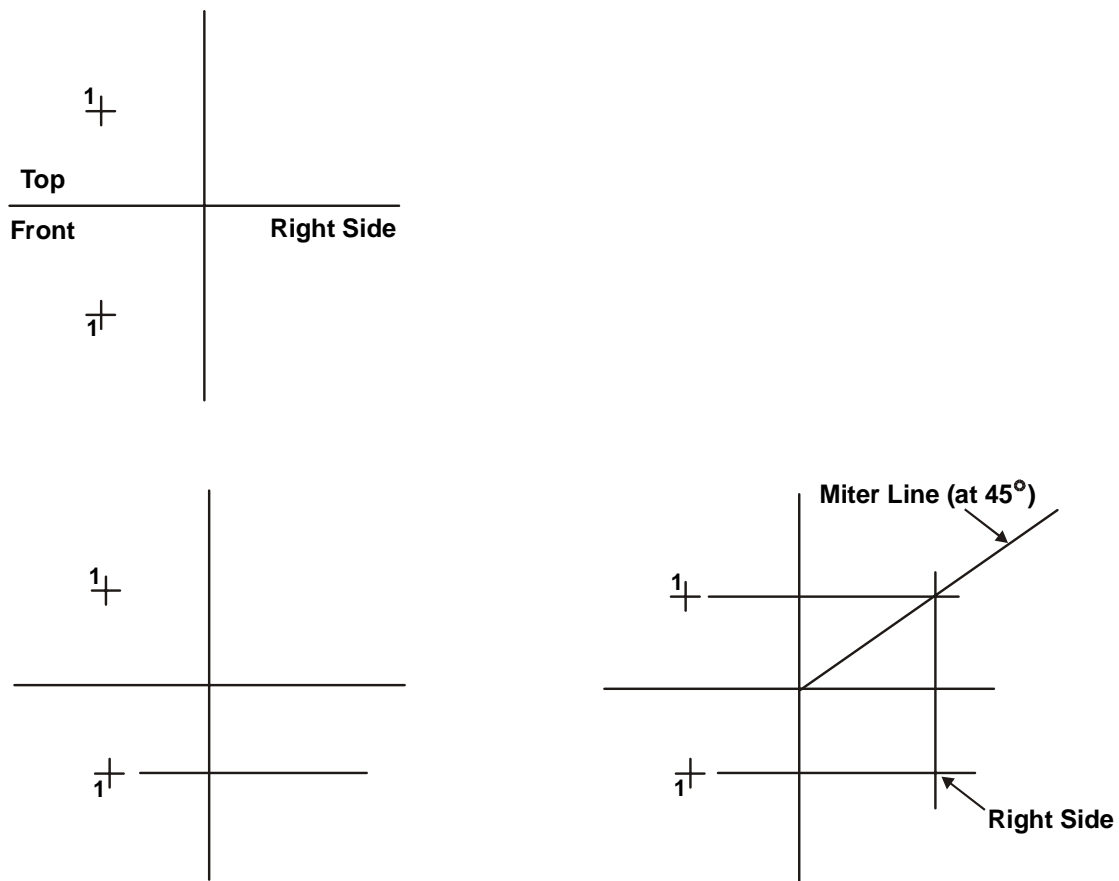

Figure 3-20. Projection of point 1 into the right side view.
- (3) Project the top view of point 1 into the right side view zone. This is done by drawing a horizontal construction line to the right, parallel to the horizontal principal plane line until it touches the 45-degree miter line. When the projection line touches the miter line, it goes from horizontal to vertical. To continue the projection line, draw a vertical construction line, parallel to the vertical principal plane line, extending down into the right side view zone. Draw the projection line through and beyond the horizontal projection line.
- (4) The intersection of the two projection lines is the right side view of point 1. Label it.
- (5) The projection of lines between views follows directly from point projection theory. Simply keep in mind that a line is the visible connection of two or more points.
- (6) Project point 1 into the right side view. See Figure 3-20.